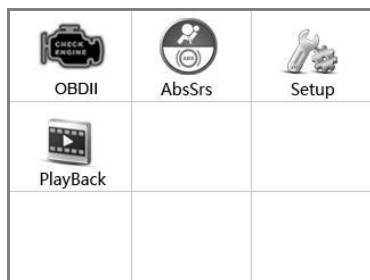

Figure 3.1
- 4) Power up the scan tool , and wait for the **Main Screen** to appear.(Figure 3.1)
- 1) Use the **LEFT/RIGHT** scroll button to select **Playback** from **Main Screen** (Figure 3.1), and press the **OK** button. Wait for the **Review Data** screen to appear.